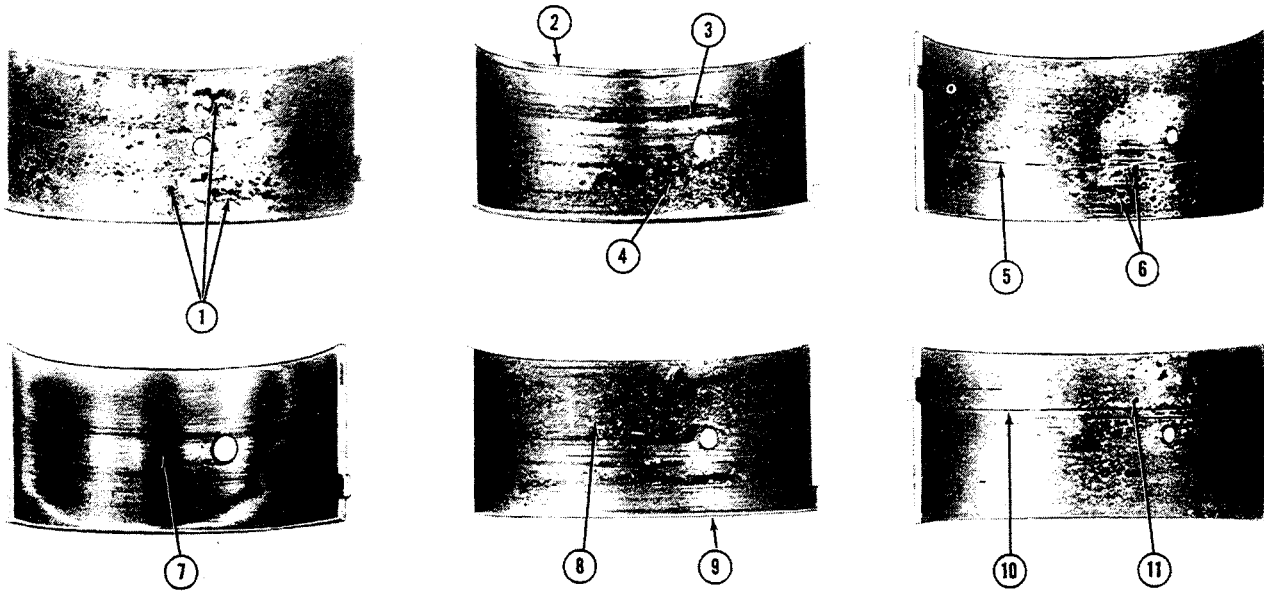

Figure 44
1. If the bearing liners are scored, have the flash overlay wiped out, show fatigue, failure, or are badly scratched, as shown in Figure 44, install new bearing liners.